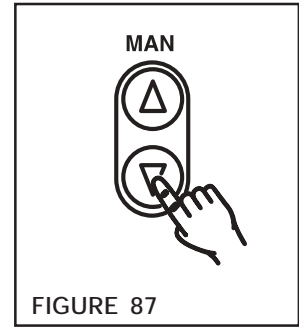

FIGURE 87
2. With the web running at **minimum** speed, adjust the up or down Manual Keys (See Figure 87) until the desired web tension is achieved.